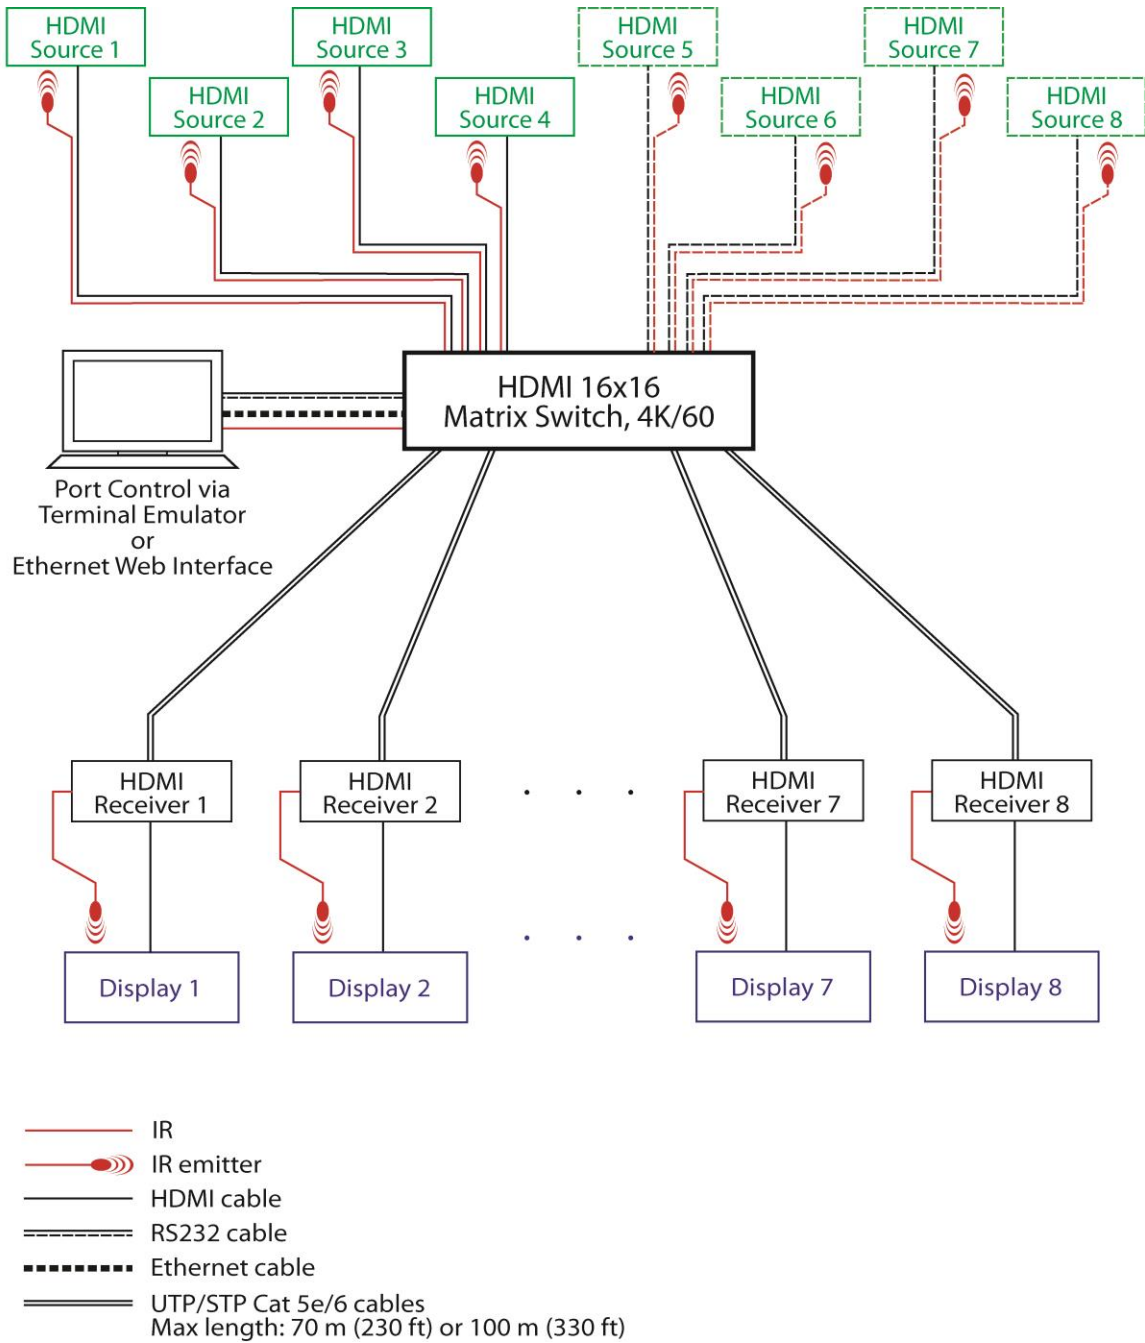

Figure 15: Typical Configuration
7. Figure 15 illustrates a typical configuration.